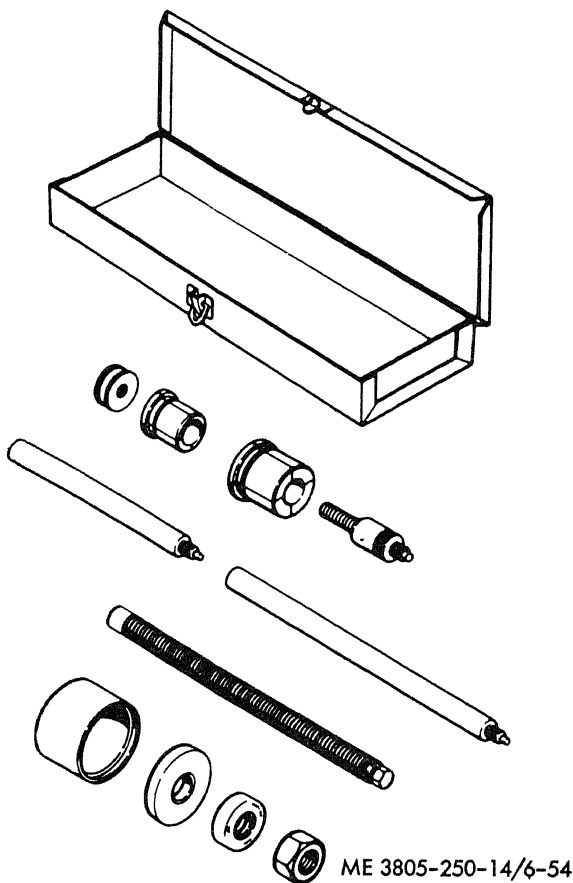

Figure 6-54. Bushing puller set.
(2) To hold the push rod lifters (13) in a raised position while removing the camshaft, insert wires with a small bend on the end down each push rod hole and into the lifter. Pull upward to raise the lifter and bend the wire over the top of the block.
(3) Pull the camshaft and gear assembly from the engine. Press the camshaft gears (5 and 6) from the shaft. Remove the thrust washer (7) and key (8) from the shaft (9).
(4) Check the camshaft bushings (10, 11 and 12) for wear. If the bushings must be replaced, refer to figure 6-54 and use puller set A41103 to remove the bushings.
(1) Install new camshaft bushings (10, 11 and 12, fig. 6-53) if they were removed. Install with puller set A41103 as shown in figure 6-54 so that the oil holes are aligned with the holes (A) in the block.